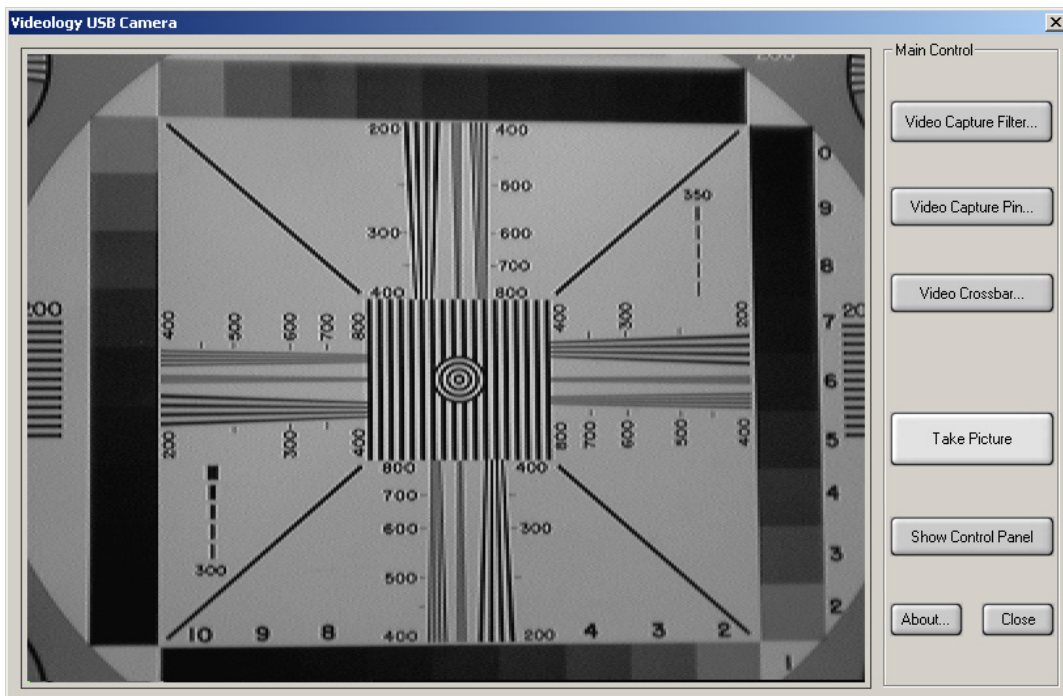

Figure 7. TWAIN Interface
*The Videology USB viewer application is designed for ease-of-use. See figure 7.*